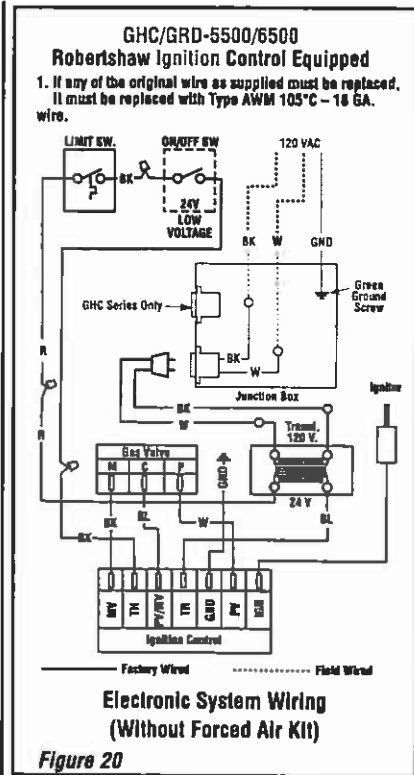

Figure 20
Note: These appliances may be equipped with either of two ignition control modules: Robertshaw or Honeywell. The Robertshaw module wiring is shown in Figures 20 and 21; the Honeywell, in Figure 22.
- 4 - Locate and install the low voltage wall switch (supplied) in the desired location and connect it to the low voltage circuit using the 18 ft of 2 conductor wire supplied with the unit as shown in Figure 20.